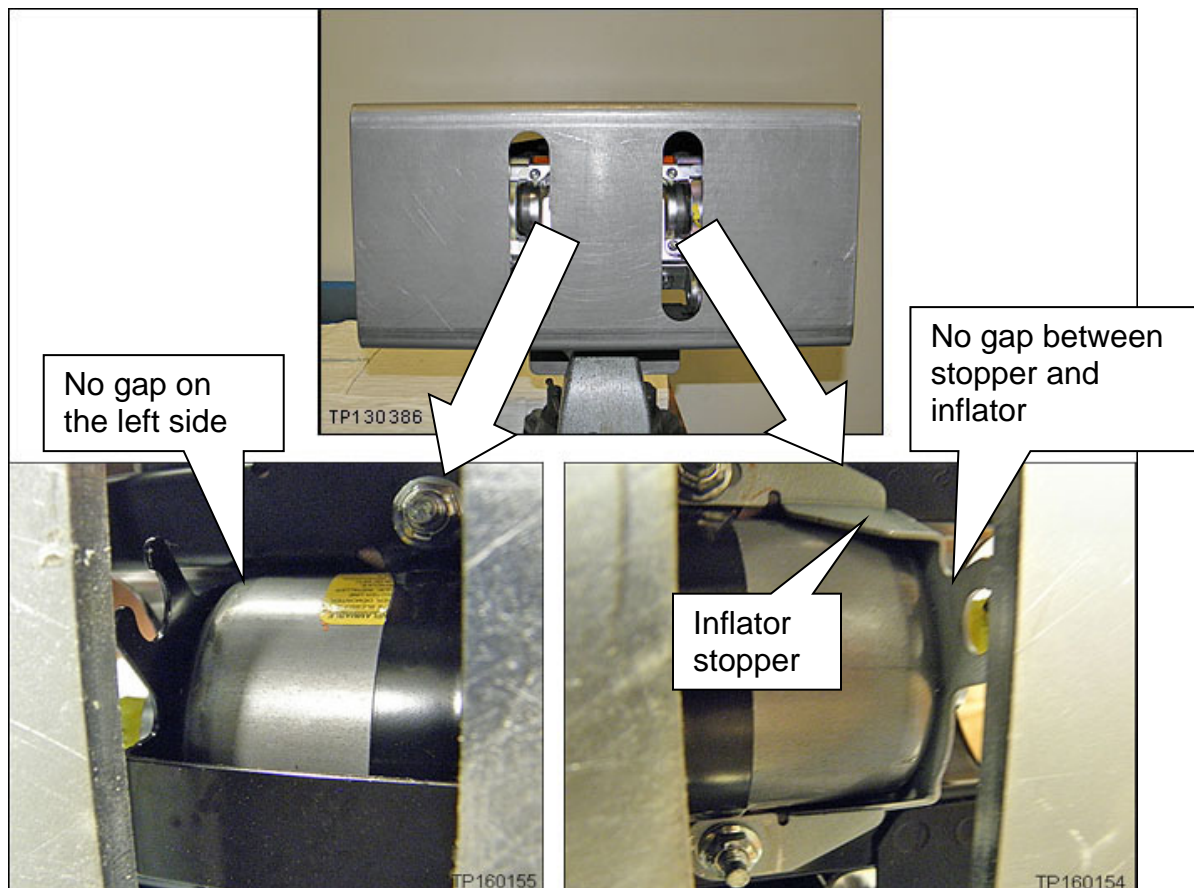

Figure 20
26. Install the inflator stopper and 4 inflator securing nuts finger tight (see Figure 20)
27. Make sure the inflator is pushed all the way into its housing – no gap on the left side (see Figure 20).
28. Make sure there is no gap between the inflator stopper and the inflator on the right side (see Figure 20).